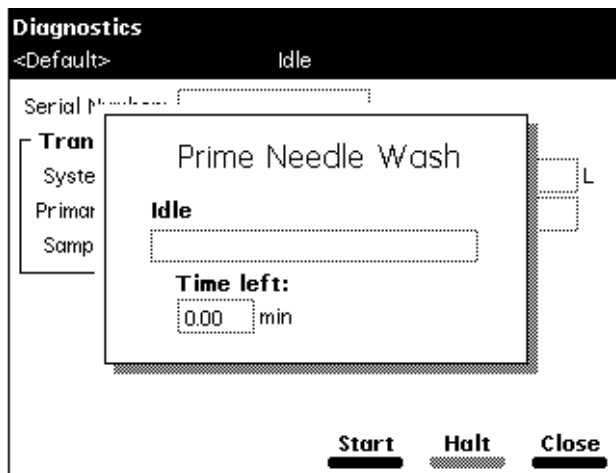

Figure 8-6 Prime Needle Wash Dialog Box
2. Press the **Prime NdlWash** screen key in the Diagnostics screen. The Prime Needle Wash dialog box appears (Figure 8-6).